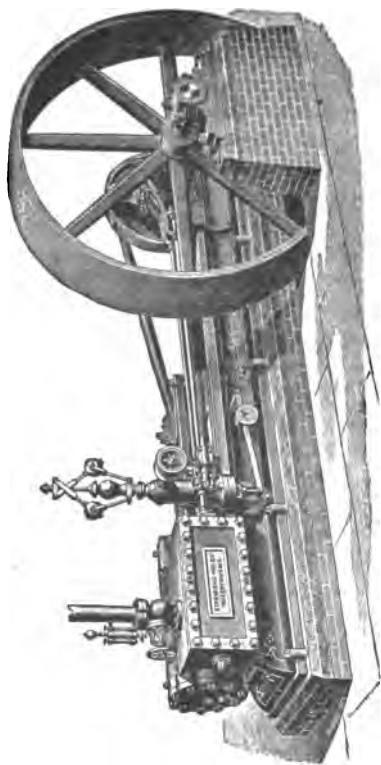

FIG. 63. WATERTOWN ENGINE.
A. This engine (see Figs. 63 and 143) has a box-bed, locomotive guides, and separate outboard bearing ; chest on the side ; fly-ball governor, disc crank. The main valve (see section, Fig. 65) plays on a